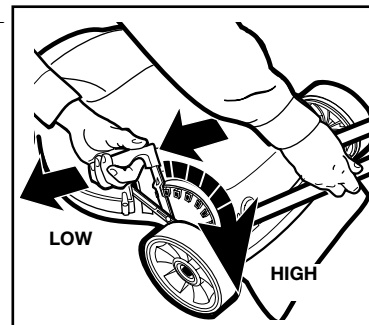

FIGURE 9
WHEEL HEIGHT ADJUSTMENT (FIGURE 9)
3. Place your left hand on the height adjust handle and your right hand on the lower handle as shown in Figure 9.